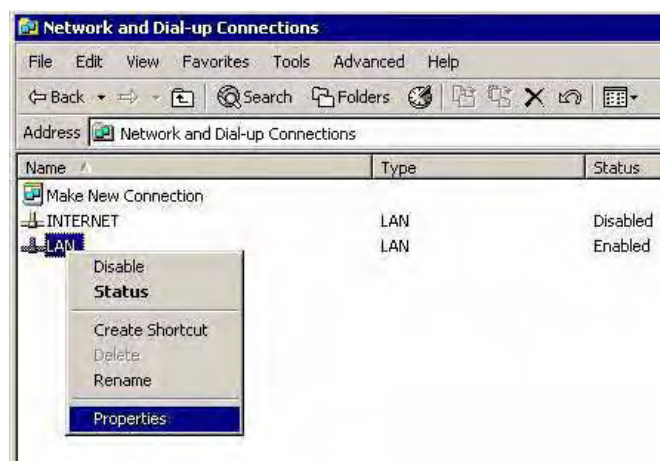

**Figure 2**
1. Open the "Network Neighbourhood" clicking the desktop icon (Figure 2) and select "Properties".